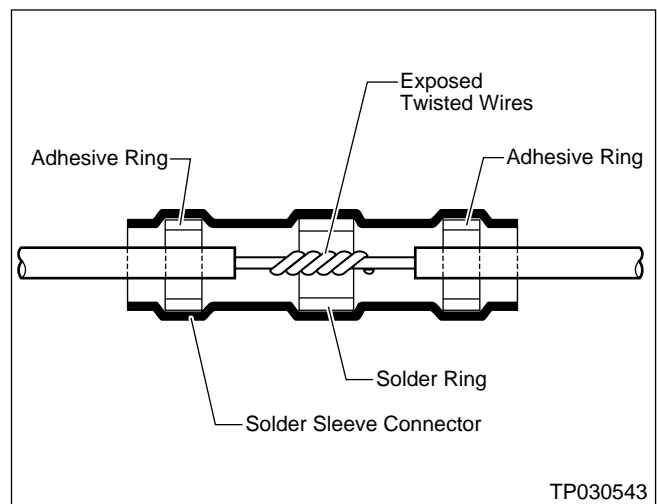

Figure 4
7. Now slide the Solder Sleeve Connector over so that the solder ring is centered around the exposed twisted wire area (see Figure 4).